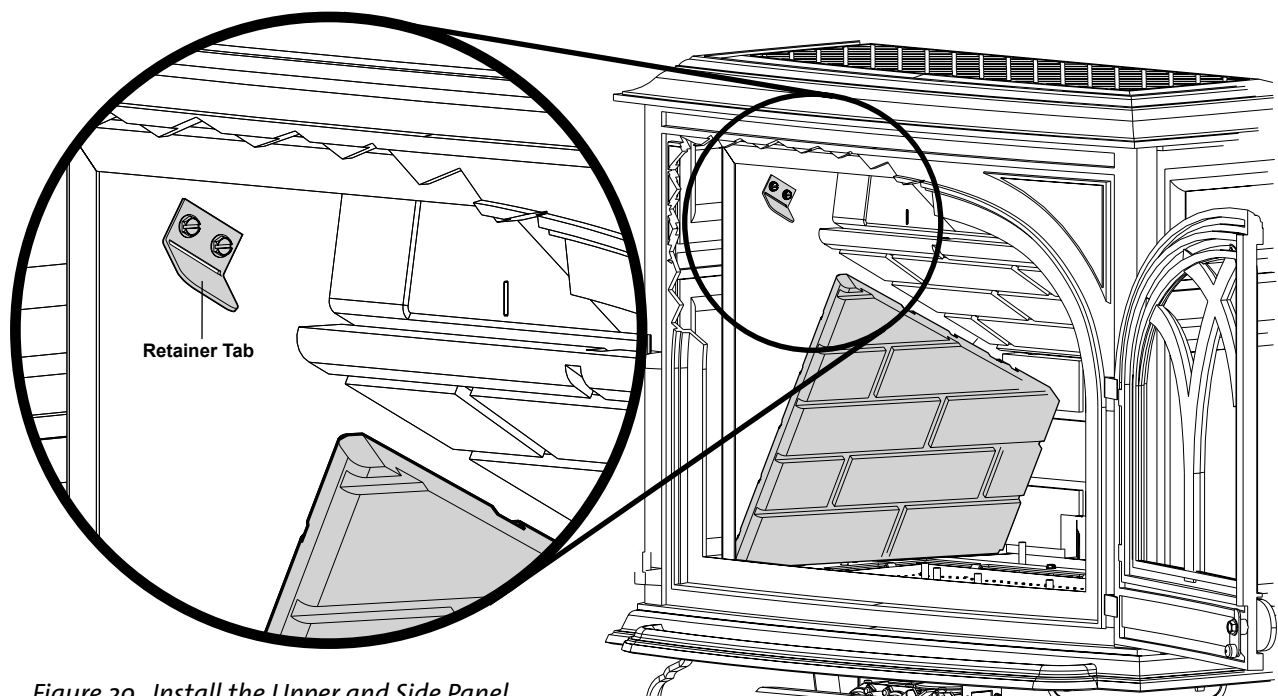

Figure 29. Install the Upper and Side Panel.
2. Bend the retainer tab out slightly from each side of the firebox. See fig. 29. Set one side panel in place and bend the retainer tab down to secure the panel.
3. Set the Upper Panel on the Lower Panel. Hold it in place while setting the opposite Side Panel against that wall. Fig. 29.